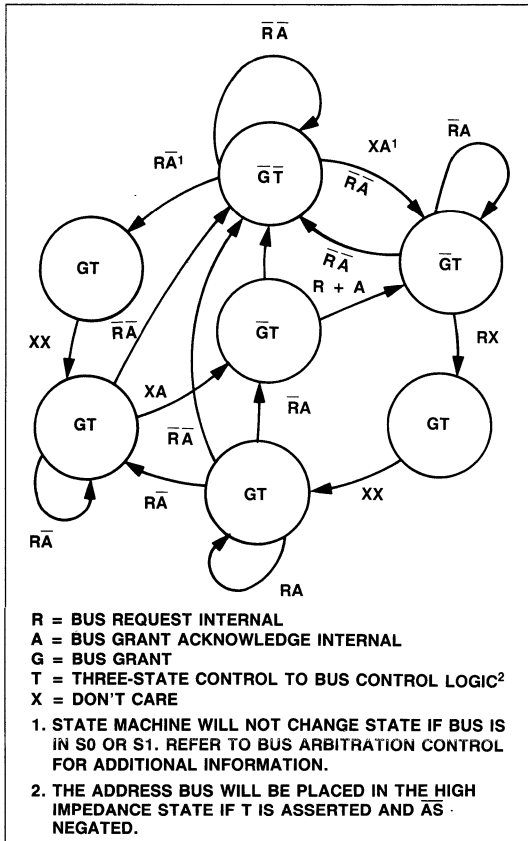
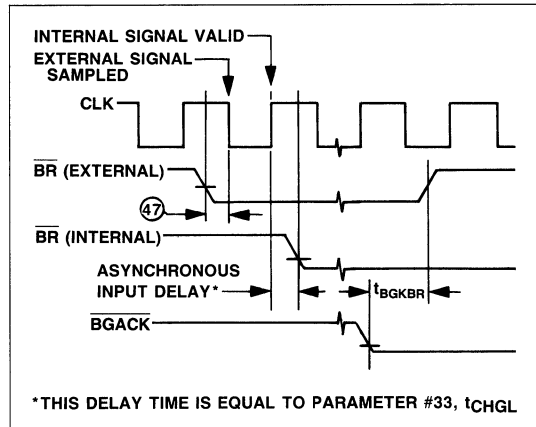

Figure 15. State Diagram of R68000 Bus Arbitration Unit
Figure 16. Timing Relationship of External Asynchronous Inputs to Internal Signals
**BUS ARBITRATION CONTROL.** The bus arbitration control unit in the R68000 is implemented with a finite state machine. A state diagram of this machine is shown in Figure 15. All asynchronous signals to the R68000 are synchronized before being used internally. This synchronization is accomplished in a maximum of one cycle of the system clock, assuming that the asynchronous input setup time (#47) has been met (see Figure 16). The input signal is sampled on the falling edge of the clock and is valid internally after the next falling edge. If  $\overline{BR}$  and  $\overline{BGACK}$  meet the asynchronous set-up time tASI (#47), then tBGKBR (#37A) can be ignored. If  $\overline{BR}$  and  $\overline{BGACK}$  are asserted asynchronously with respect to the clock,  $\overline{BGACK}$  has to be asserted before  $\overline{BR}$  is negated.
As shown in Figure 15, input signals labeled R and A are internally synchronized on the bus request and bus grant acknowledge pins respectively. The bus grant output is labeled G and the internal three-state control signal T. If T is true, the address, data, and control buses are placed in a high-impedance state when  $\overline{AS}$  is negated. All signals are shown in positive logic (active high) regardless of their true active voltage level.